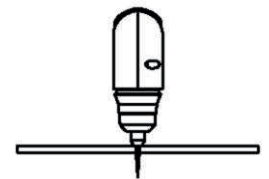

Figure 6
- Complete the pierce off the cutting line and then continue the cut onto the line. Hold the torch perpendicular to the workpiece after the cut is complete. Figure 6.